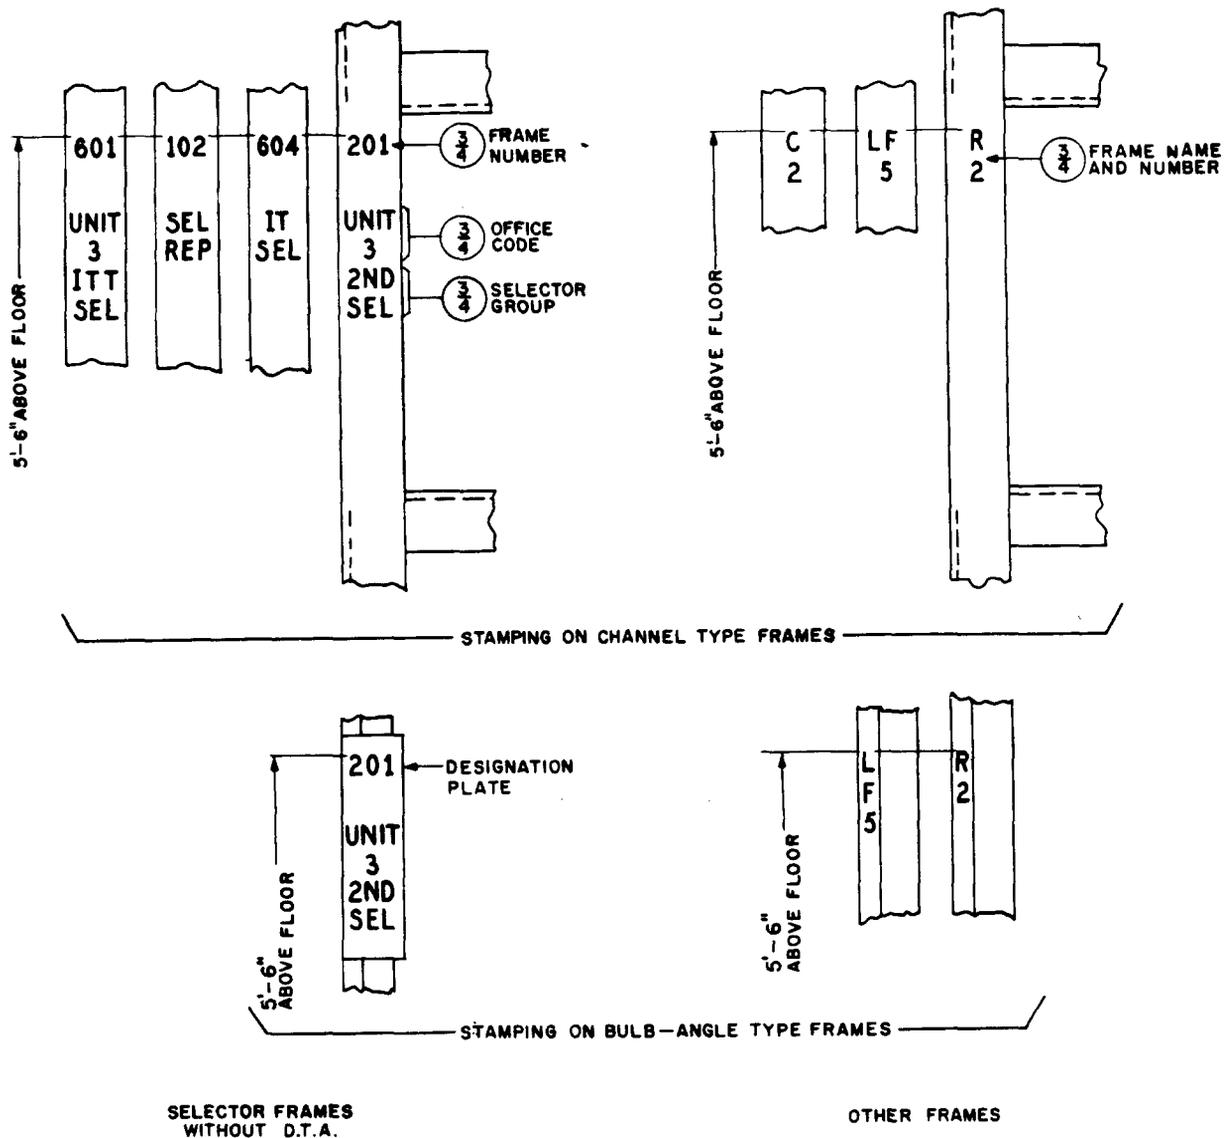

Fig. 27 - Various Designations for Step-by-Step Frames and Bays
2.40 *Bay and frame designations* consist of numbers having functional significance (101 for a bay or frame of first selectors, 201 for second selectors, etc, and 601 for toll selectors) for selector frames, and name and number (C 1, R 1, M 1, LF 1, TF 1, etc) for other step-by-step frames except in 355A community dial offices, where frames are designated SW 1, SW 2, etc, regardless of type. The frame designation for step-by-step equipment frames shall be stamped on the front of the left upright, as shown in Fig. 27, except as follows:
(a) When the unit designation applies to all of the shelves in a bay, it shall be stamped below the bay or frame designation, as shown in Fig. 27, except that on selector frames with distributing terminal assemblies where all selectors serve the same office, the unit designation is required below the bay number of the left bay only.